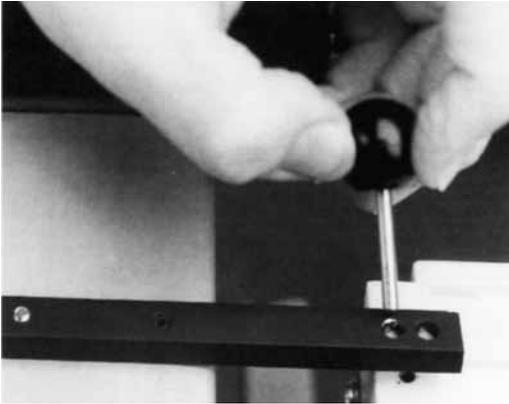

Figure 18
- a. To use the cassette travel lock with the reversal adapter bar, insert the lock in the hole closest to the dowel pin (Figure 18).